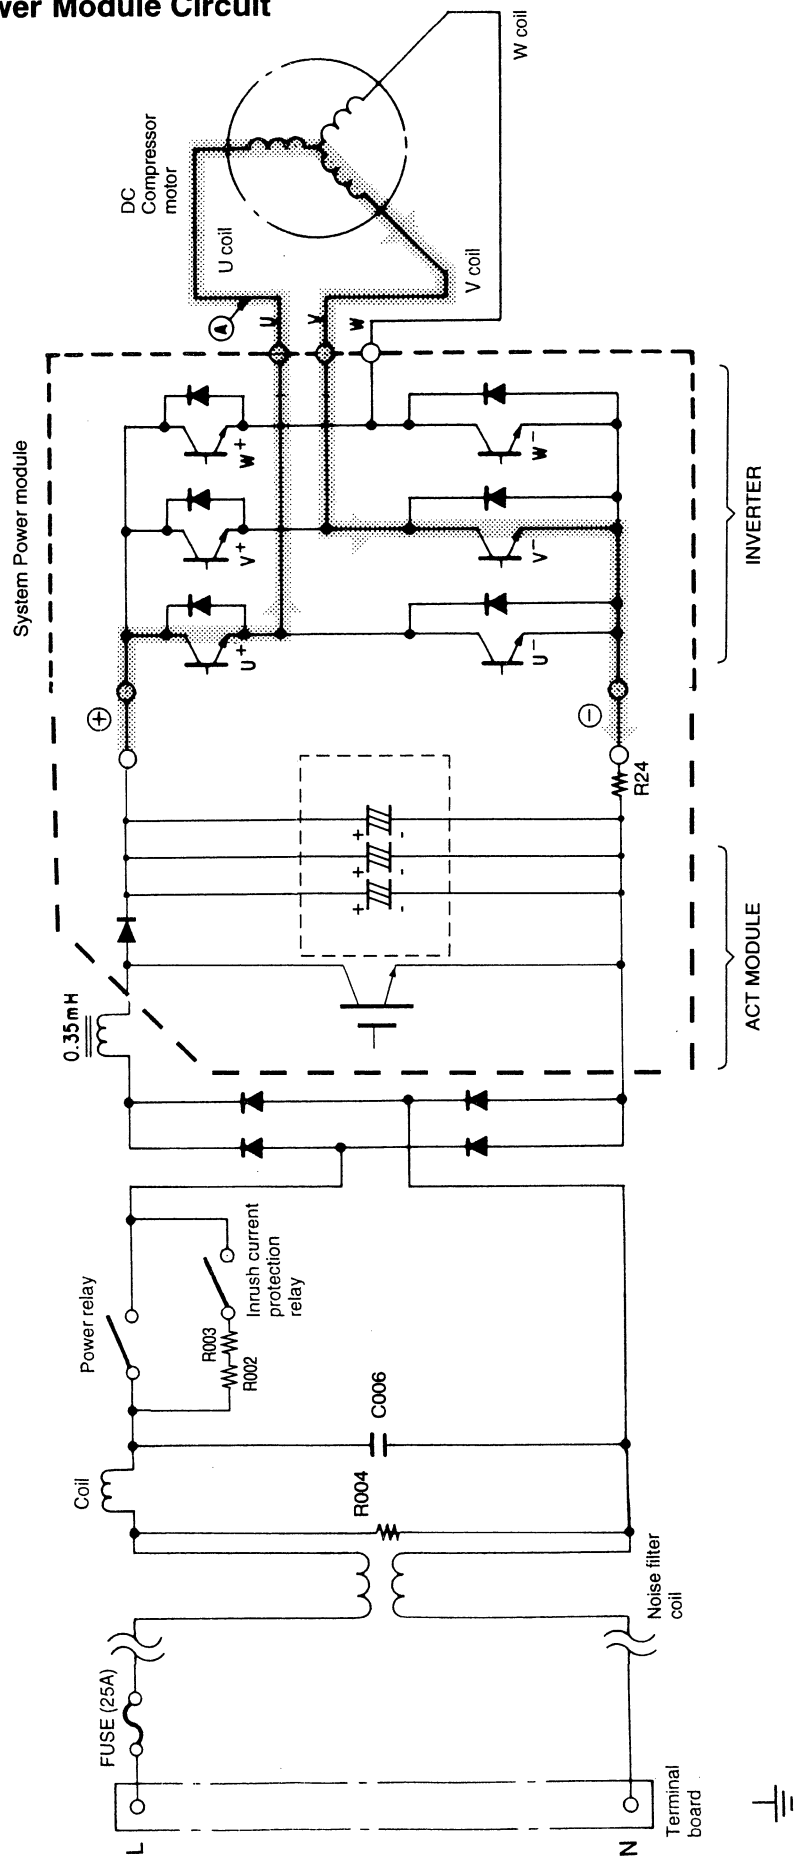

Fig. 3-1 System power module circuit (U⁺ is ON, V⁻ is ON)
- Fig.3-1 shows the system power module and its peripheral circuits. (Current ACT module and power module are combined into one unit.) The three transistors on the positive ⊕ side are called the upper arm, and the three transistors on the negative ⊖ side, the lower arm.